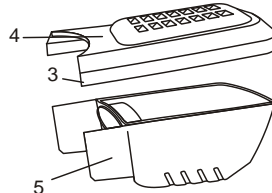

Fig. 3
2. Insert a small flat blade screwdriver at the front of the dust box assembly (3) and carefully pry the top of the dust box (4) away from the bottom of the dust box (5) (Fig. 3).